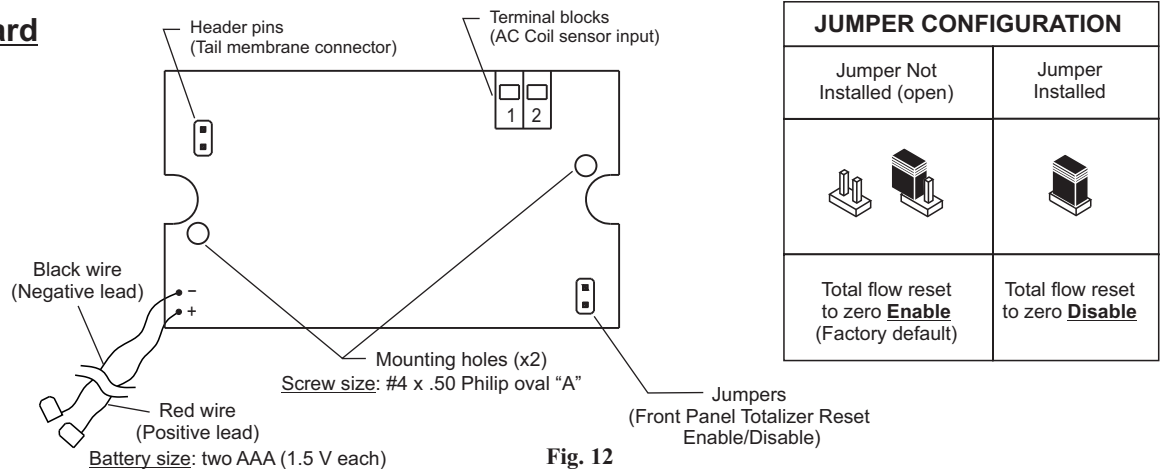

Fig. 12
- **Model F-1000-TB:** The F-1000-TB is the basic totalizer meter. The meter will display the total flow amounts from .01 through 999999 in any engineering units. Some standard units of measure are GALLONS, LITERS, CUBIC METERS. Pressing and holding the RESET button (located on the front panel) for at least 2.0 seconds resets the total to zero. This feature can be disabled -- see Fig. 12 below.
- **Model F-1000-RT:** The F-1000-RT is the rate and totalizer meter. The meter will display the flow rate amounts and the total flow amounts from .01 through 999999 in any engineering units. Some standard units of measure are GALLONS PER MINUTE, GALLONS PER HOUR, GALLONS PER DAY, LITERS PER MINUTE, LITERS PER HOUR, LITERS PER DAY, CUBIC METERS PER HOUR, CUBIC METERS PER DAY. Pressing the RESET button (located on the front panel) toggles the display between flow rate and total flow. Pressing and holding the RESET button for at least 2.0 seconds while the total flow value is displayed will reset the total to zero. This feature can be disabled -- see Fig. 12 below.